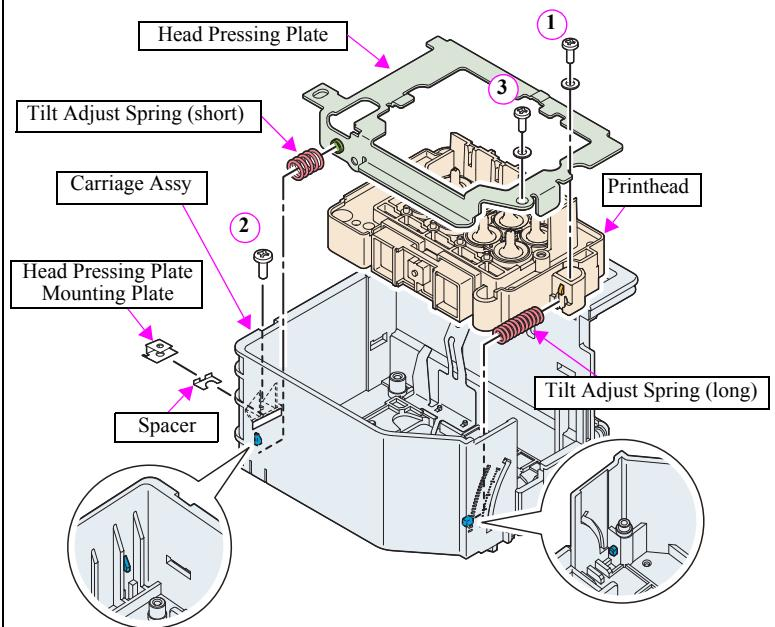

Figure 4-116. Installing the Printhead (2)
2. Insert the Tilt Adjust Spring (long) over the guide pin of the Carriage Assy, and set the other end of spring below the rib of the Printhead. See Figure 4-116.
3. Secure the Printhead with the screw (1).
4. Mount the Head Pressing Plate to the Carriage Assy, and secure it with the new Head Pressing Plate Mounting Plate, new Spacer and the screw (2).
6. Secure the Head Pressing Plate with the screw (3).